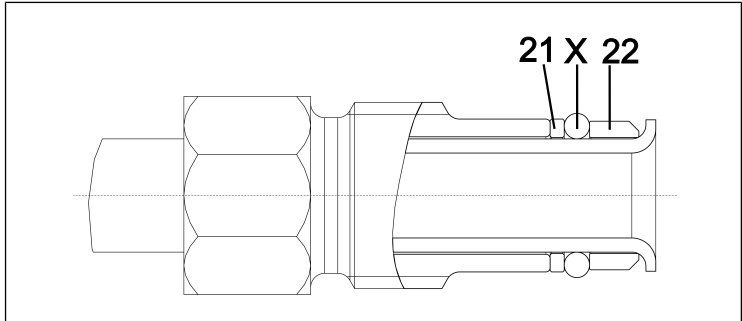

Fig. 31: Correct position of O-ring
2. Change the O-rings (16) and (17) on the separator hose connection (11).
3. Change the O-ring (15) on the high-performance condenser hose connection (12).
i When changing the O-rings, make sure that the new O-rings are positioned correctly (between sleeve (22) and sliding washer (21; see Fig. 31).